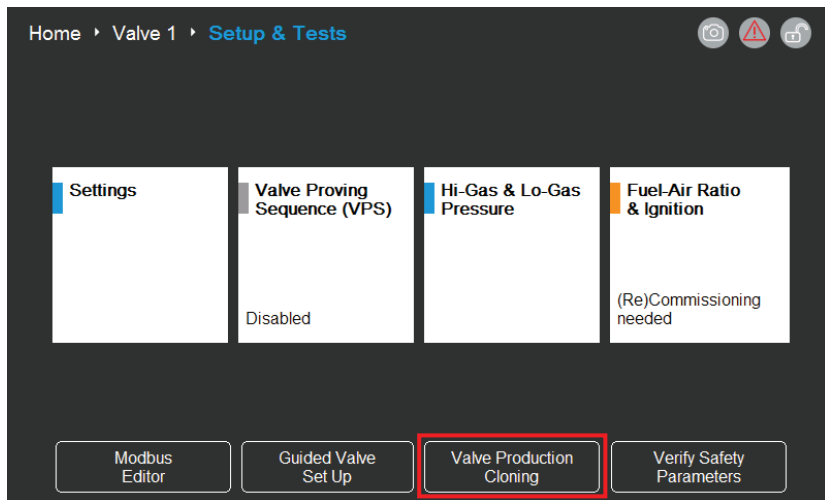

Fig. 113: Valve Production cloning selection for configured valve.
- Selecting the 'Valve Production Cloning' button in the Setup & Tests menu for a connected valve. Refer to Fig. 113.
3. Select the 'Setup & Tests' tile on the valve status page. This will open the 'Setup & Tests' page. Refer to Fig. 113.